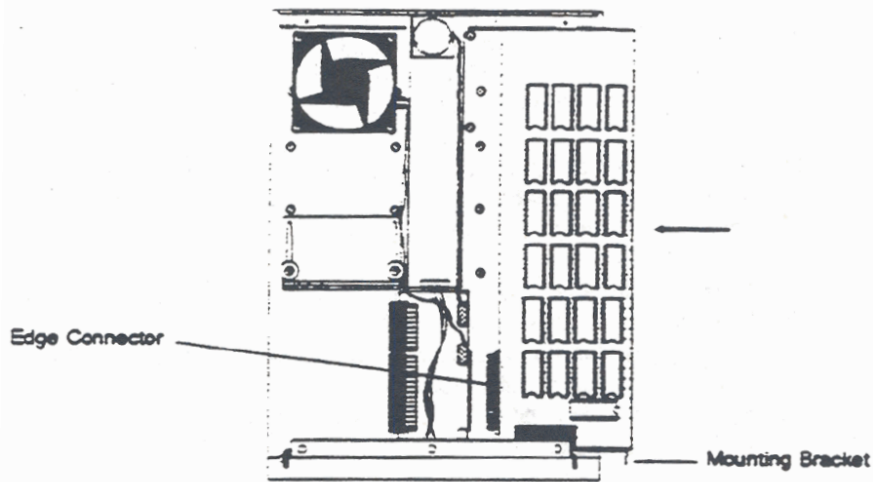
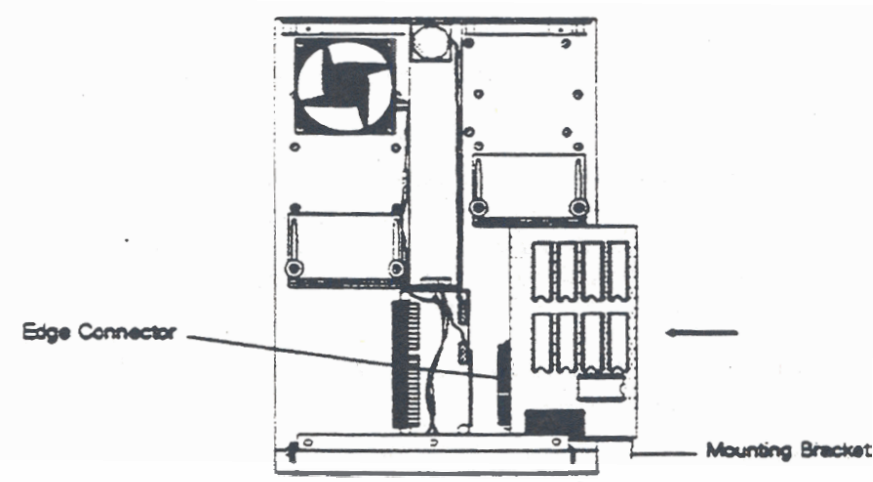

Figure 7-5. Installing a Full-Length Card
Figure 7-6. Installing a Short Card
- 3b. If you are installing a short card, loosen the two screws securing the short-card support bracket and slide the bracket to accommodate the length of the card you are installing. Leave the screws loose until the rest of the installation procedure is complete. Note that the short-card support bracket can be moved to three alternative mounting points to accommodate odd-size expansion cards (refer to Figures 7-5 and 7-6).
Figure 7-5 shows the installation of a full-length card. Figure 7-6 shows the installation of a short card.